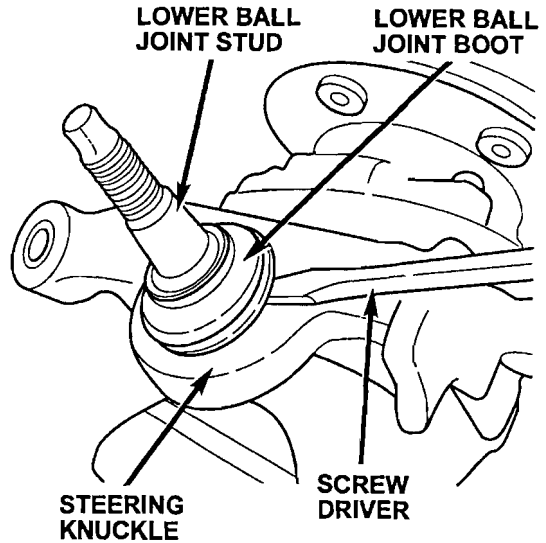

Figure 5
- Remove and discard the lower ball joint boot and boot retaining clip (Figure 5).